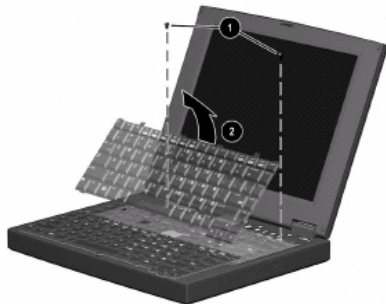

Figure 5-6: Removing the Keyboard Screws
3. Remove the two M2.5 × 5 screws securing the keyboard to the base enclosure 1 (Figure 5-6).